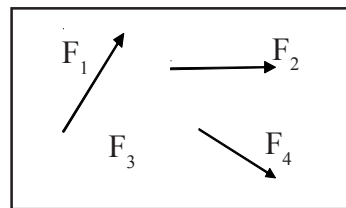

Fig.2.5
- d) Coplanar non concurrent forces: The forces, whose lines of action lie in the same plane, but do not meet at one point are called as coplanar non-concurrent forces.(Fig.2.5)